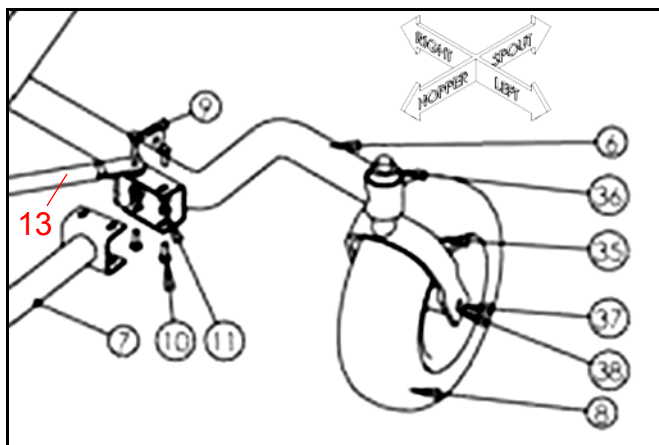

Figure 3.6
2. Fit the clevis end of the transport pipe (7) inside the clevis on the v-frame (6) with crossbrace (13). Connect together with bolts (9,10) and locknuts (11). Do not tighten. Refer to Figure 3.6.
4. Attach the cross brace (13) to the v-frame (6) and mount one to the top side of the v-frame clevis and the other to the bottom. See Figure 3.6.
- ➡ 8. **Push/Pull Systems:** Install wheel yoke weldment (35) on v-frame, see Figure 3.6. Secure collar (36). Install tire (8) with bolt (37) and locknut (38). Repeat for opposite side.